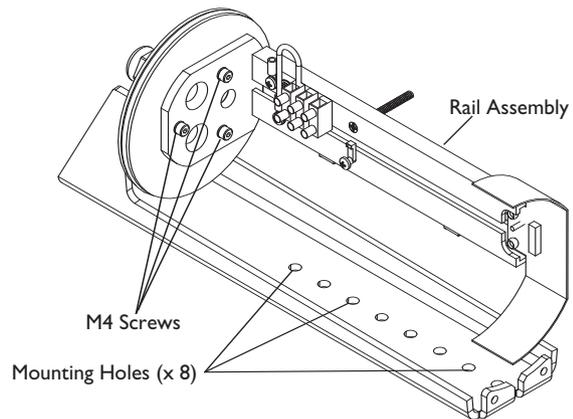

FIGURE 4 Mounting the Base Assembly
4. Attach the housing to an appropriate mount or pan/tilt. Use the instructions provided with the mount or pan/tilt. The base assembly has eight clearance holes for mounting. Use a minimum of three M6 screws and nuts or three 1/4in. screws and nuts (not provided). Lock washers are required (not provided). Rotating the rail assembly will allow access to the mounting holes. This can be accomplished by loosening the three M4 screws. See 5.11 Camera/Lens Orientation. It will be easier to mount the base before installing the camera, but it may be mounted anytime during the installation process. See FIGURE 4.